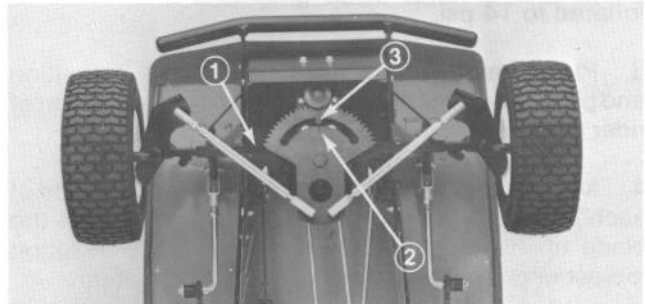

Figure 34
1. Assure Front Axle is level with frame and steering rack timing mark is centered on steering stop pin (Fig. 34).
2. To align front wheels, loosen jam nuts and turn tie rods until centerline distance across front of wheels is equal to or $3/16''$ max less than centerline distance across rear of front wheels (Fig. 34). Wheels should be straight ahead or toe-in should be equal when timing mark is centered.